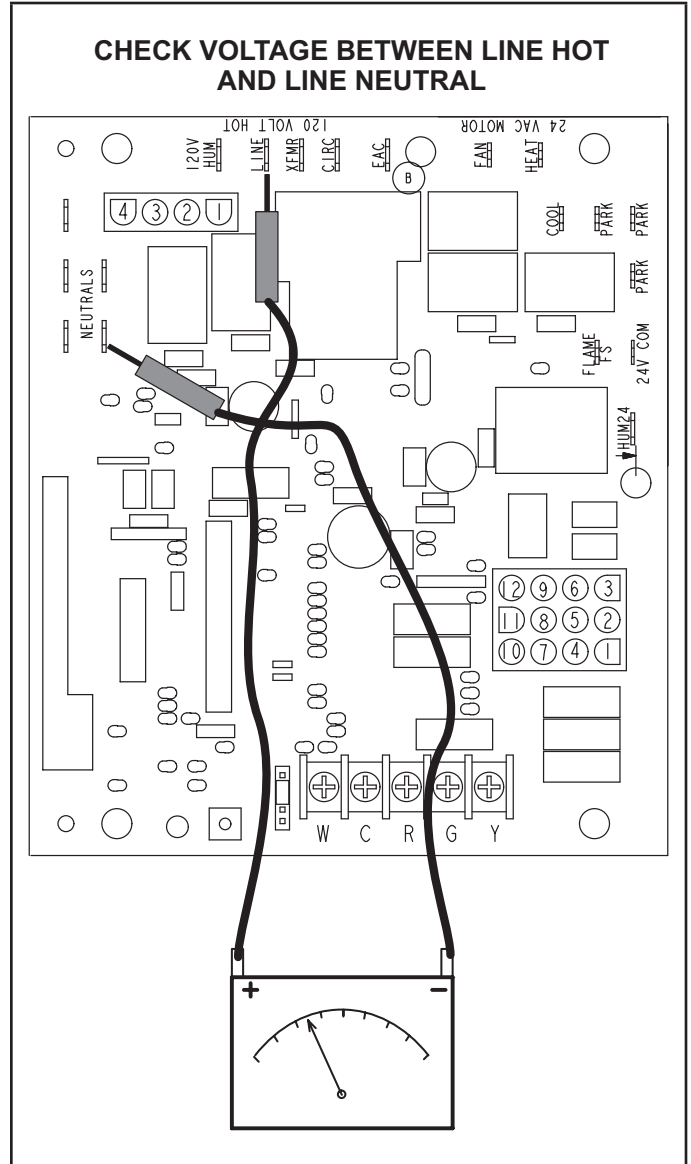

FIGURE 22
- 2 - In addition, measure the AC voltage from Line Hot to Line Neutral (spade terminals) on the integrated control. See figure 22. This voltage should be in the range of 97 to 132 Vac.